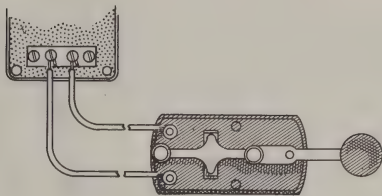

Figure 10
- ( ) Connect the transmitting key to the two terminals marked "Key" as shown in Figure 10.